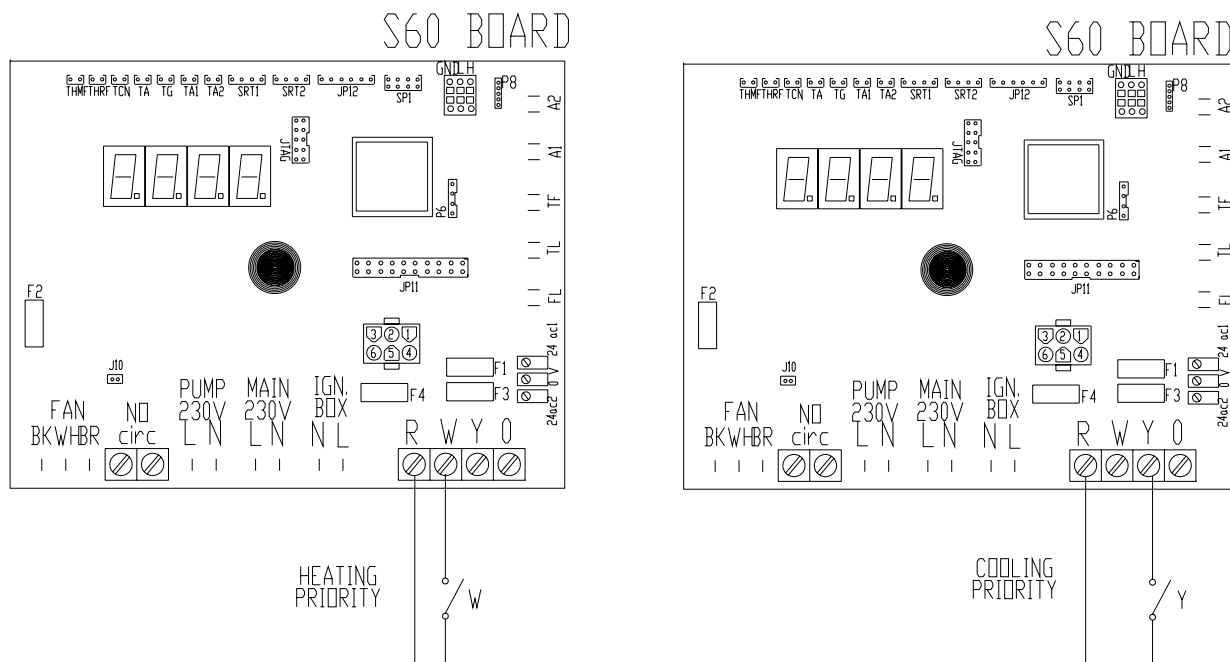

Figure 16 - On-off switch connection.
3. Connect the on/off switch (for example a thermostat) to the terminals **R**, **W** and **Y** of the electronic board as shown in Figure 16.
- If the unit is in heating mode/priority (see Page 45), switch on the appliance closing the R-W contact (See Figure 16).
- If the unit is in the cooling mode priority (see Page 45), switch on the appliance closing R-Y contact (See Figure 16).